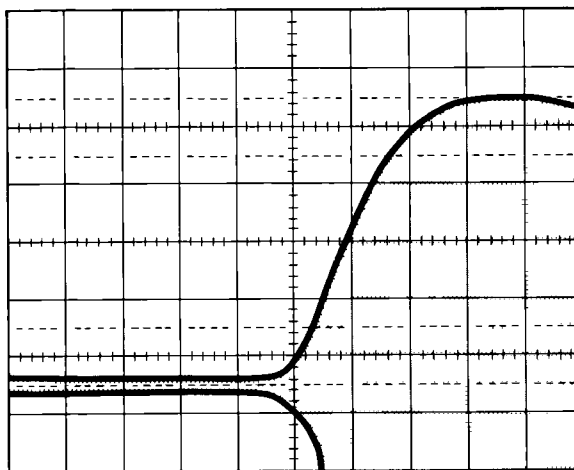

Figure 4-14. Pulse Modulation Rise Time Waveform
5. Set the oscilloscope horizontal sweep to 50 nanoseconds/division and select channel A input only. Adjust the channel A (pulsed IF input signal) vertical gain and position so that the pulse OFF is at the 0% graticule line and the pulse ON is at 100% graticule line. Select the horizontal MAG X10. The oscilloscope is now calibrated for 5 nanoseconds/division. Adjust the horizontal position control to position the modulation envelope so that the 10% point of the envelope rise time is at the center vertical graticule line similar to Figure 4-14.